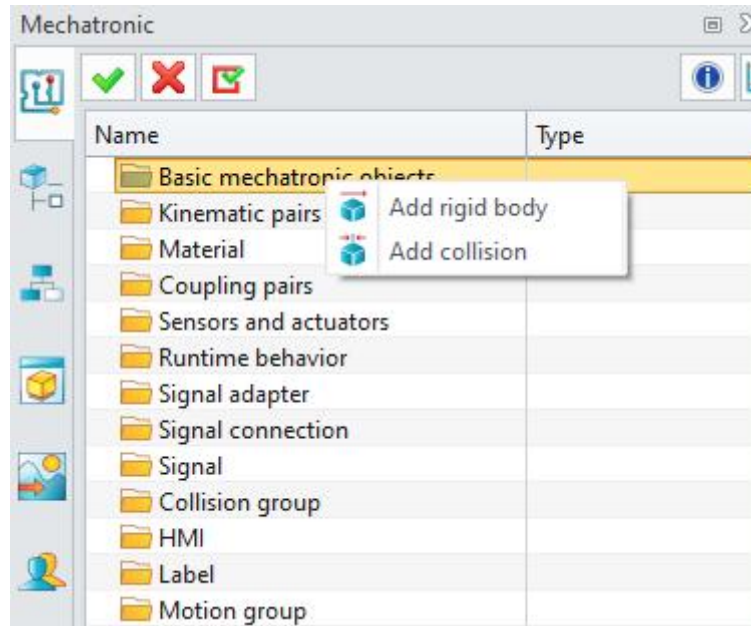

Figure 8-11: Add Rigid Body
- Right-click and select "Add Rigid Body" for each of the seven joint component objects. (Figure 8-11)